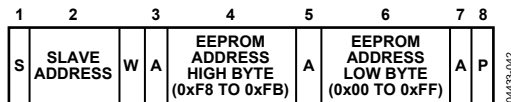

Figure 45. Setting an EEPROM Address
- To set up a 2-byte EEPROM address for a subsequent read, write, block read, block write, or page erase. In this case, the command byte is the high byte of EEPROM Address 0xF8 to EEPROM Address 0xFB. The only data byte is the low byte of the EEPROM address, as shown in Figure 45.